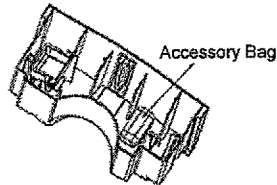

Fig. 3
3. Locate and remove the accessory bag containing the 4 casters (Fig. 3)
3. Empty the bucket and replace the bucket in the dehumidifier. (Fig. 3)
(Fig. 3)